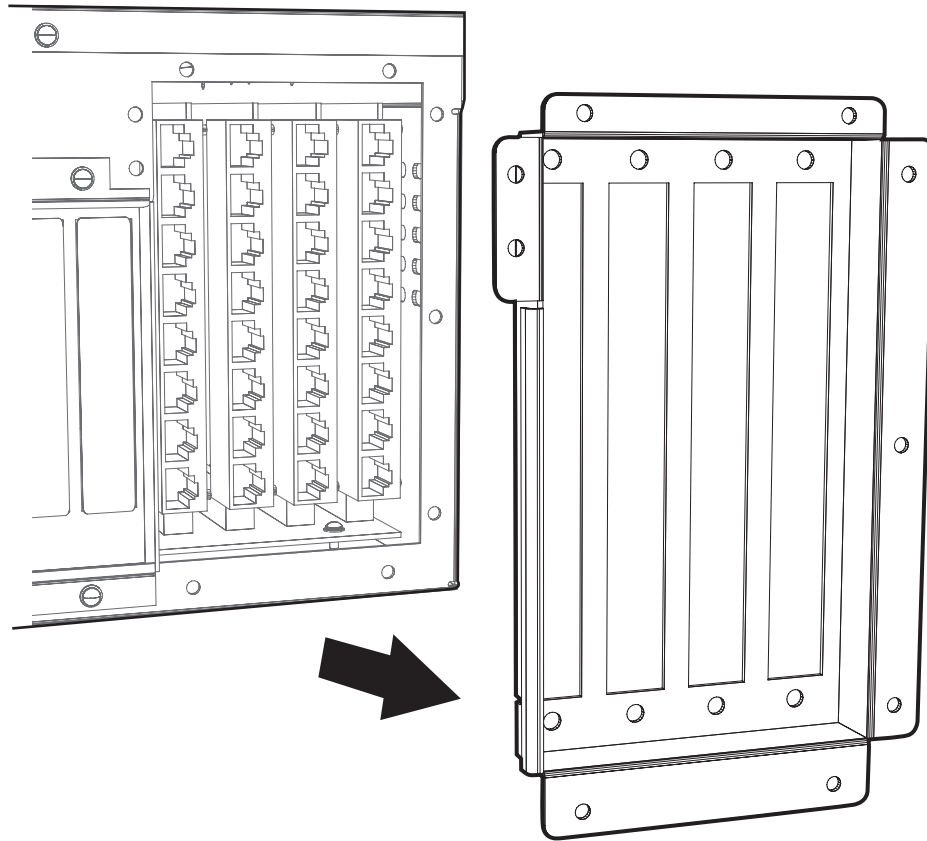

Figure 5. Sercom Card Mounting Plate Removal
- a. Remove the screws securing the Sercom card mounting plate (refer to Figure 5).
- b. Remove the Sercom card mounting plate by gently pulling outward from the CC1 chassis (refer to Figure 5).